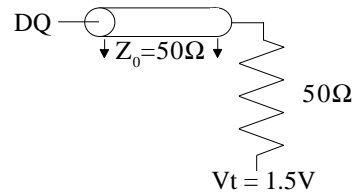

Fig. 1 OUTPUT LOAD EQUIVALENT
1. Test conditions as specified with the output loading shown in Figure 1 for 3.3V I/O ($V_{DDQ} = +3.3\text{V} +0.3\text{V}/-0.165\text{V}$) unless otherwise noted.
Output load	See Figures 1 and 2